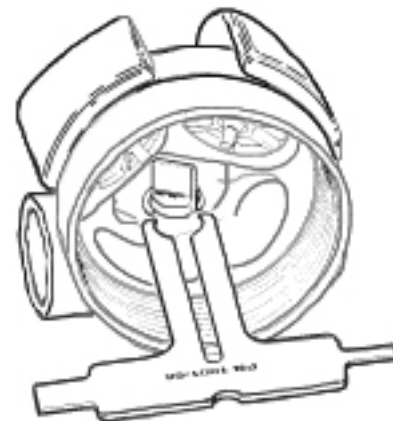

Figure 15 - Removal of anti-venturi vane
17. Stand the box bottom upside down with the mouthpiece boss facing forward so that the circlip (16) which holds the anti-venturi vane (20) secure is clearly visible. If necessary, gently turn the circlip with a small probe until both ends are facing toward the open side of the box bottom.
18. While holding the box bottom secure, place the tines of the Micra pre-adjustment tool (PN 100168) - or two medium blade screwdrivers if this specialty tool is not available - squarely against the ends of the circlip (see Figure 15). Gently press the circlip off the anti-venturi vane, and set it aside.